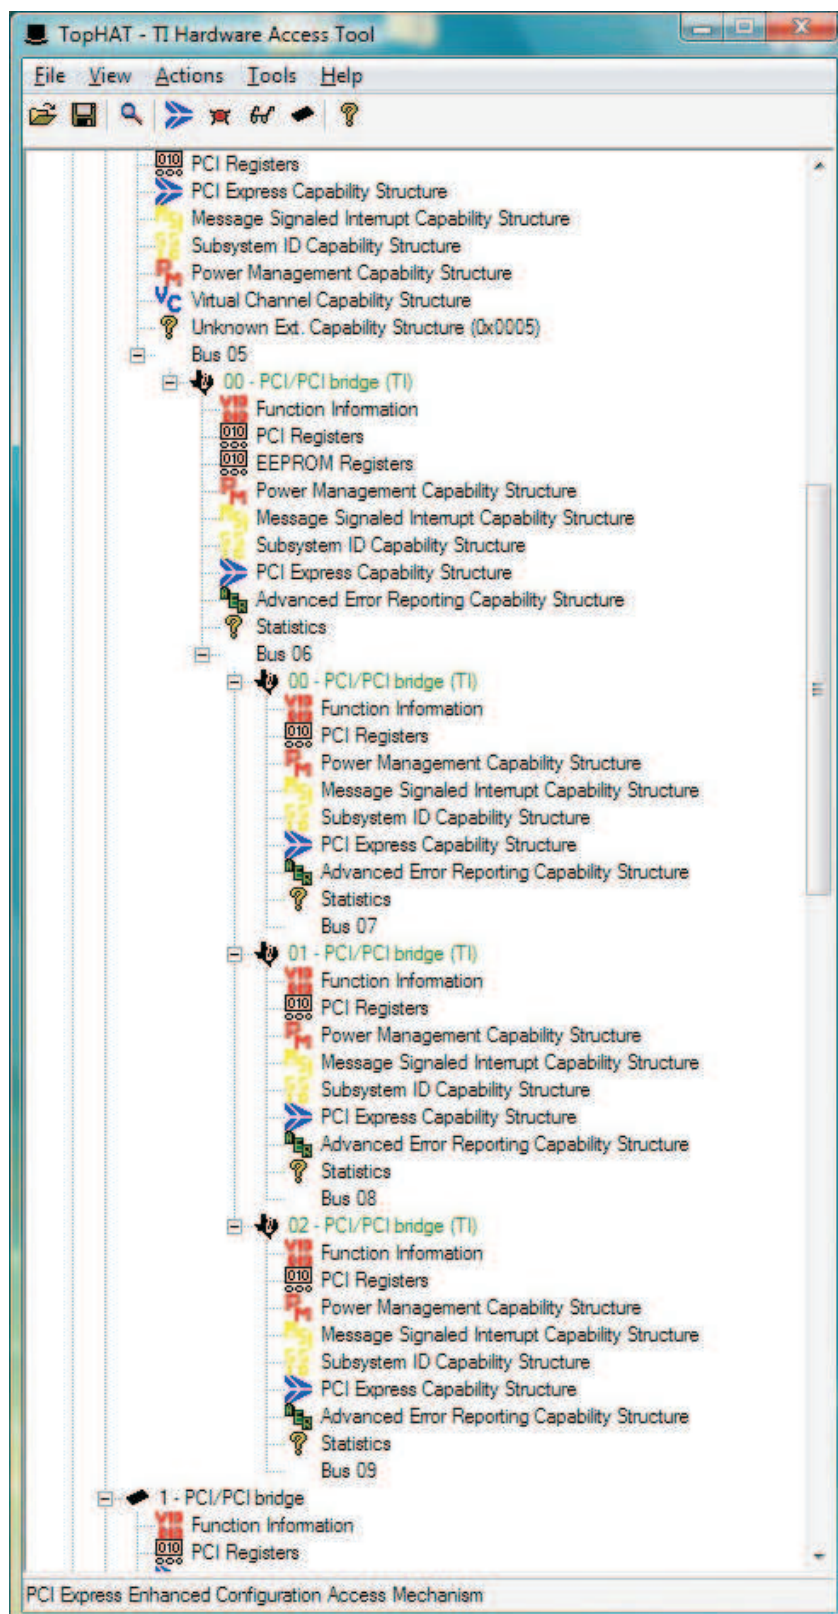

Figure 1-15. TopHAT
TopHAT is a TI-developed utility that allows a user to read or write to various registers in a PCI or PCIe device. Once the utility has been installed, double click the TopHAT icon to start the program. A dialog box opens to show the entire PCI bus hierarchy. The XIO3130 will show up as four PCI to PCI bridges. Look for the TI icon next "PCI/PCI bridge (TI)" (see Figure 1-15).